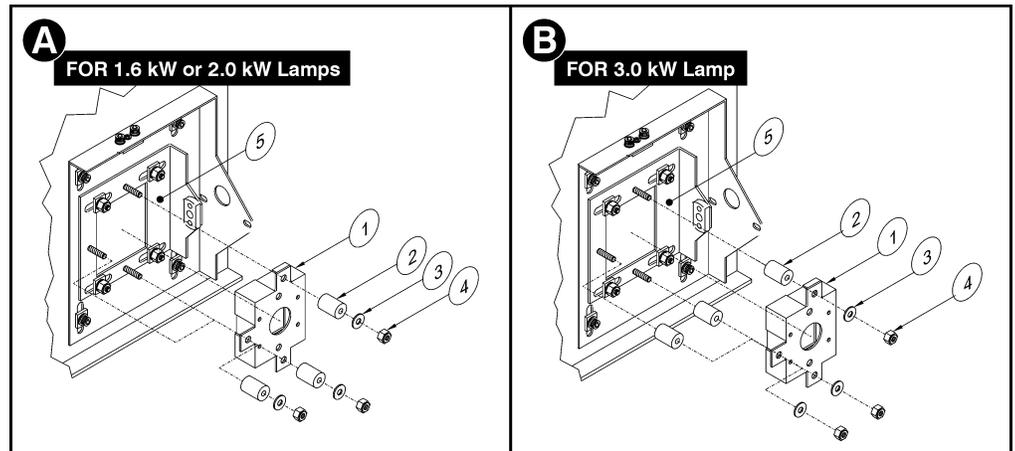
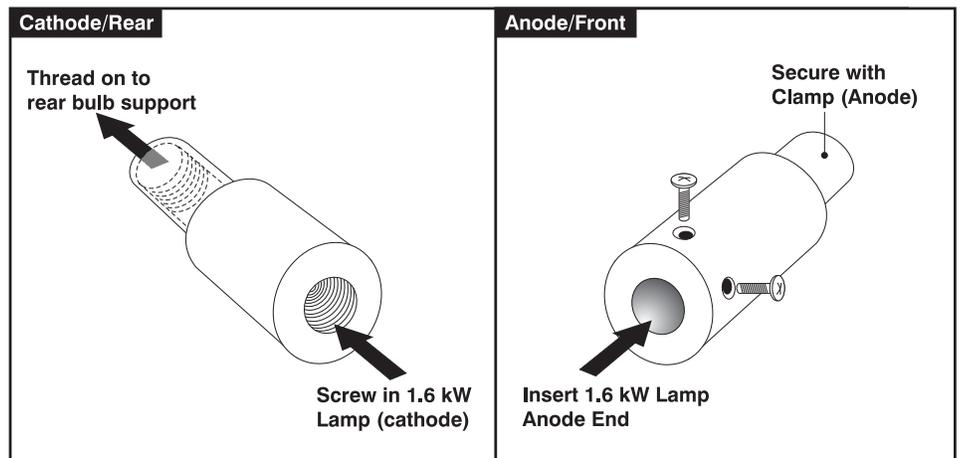

Figure 6.2. Location of Spacers for SLI-D Lamps
Figure 6.3. Two Extra Adapters Needed for 1.6 kW Lamp
LOCATION OF SPACERS: Figure 6.2 illustrates the 2 different locations for rear spacers in any SLI-D lamphouse—depending on their location, these spacers move the horizontal adjustment box closer to or further from the opposing connector (anode) so that each of the three different-sized SLI-D lamps fit in the lamphouse. For 1.6 kW or 2.0 kW lamps, locate the spacers as shown in Figure 6.2A. For a 3.0 kW lamp, locate the spacers *in front* of the horizontal adjustment box as shown in Figure 6.2B, essentially moving this box backwards to accommodate the extra length of this lamp. To move the spacers:
- ❑ Remove the ④ nut and ③ washer securing the ② spacers with the ① horizontal adjustment box.
- ❑ Move all three spacers (②) as shown for your specific lamp in Figure 6.2.
- ❑ Re-secure all ④ nuts, ③ washers, ① horizontal adjustment box and ② spacers to the ⑤ horizontal adjustment plate.
6.2. Slip the positive anode connector off. *If 1.6 kW lamp, also remove the adapter present (refer back to Figure 6.3).*
6.3. Unscrew the lamp from the rear connector (*or from the adapter, if SLI-D—refer back to Figure 6.2 and Figure 6.3*), and carefully remove the lamp from the lamphouse. ***Immediately*** place the lamp inside the protective cover (saved from previous installation) or in a heavy carton on the floor where it cannot fall.
8.3. Install the positive lamp connector over the anode (+) end of the lamp. If installing a 1.6 kW lamp, make sure to include its adapter (Figure 6.3).